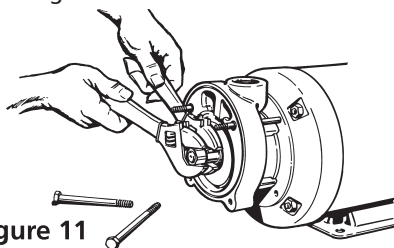

Figure 11
- m. Place a second crescent wrench over the nut and tighten in a clockwise direction until it is secured. Refer to Figure 11.